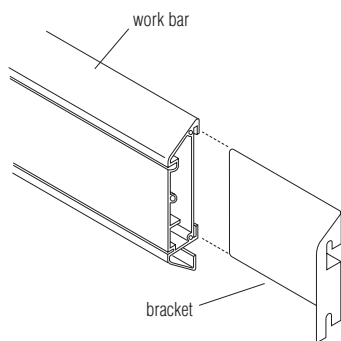

Figure 2
5. Insert brackets into both ends of work bar (Figure 2).